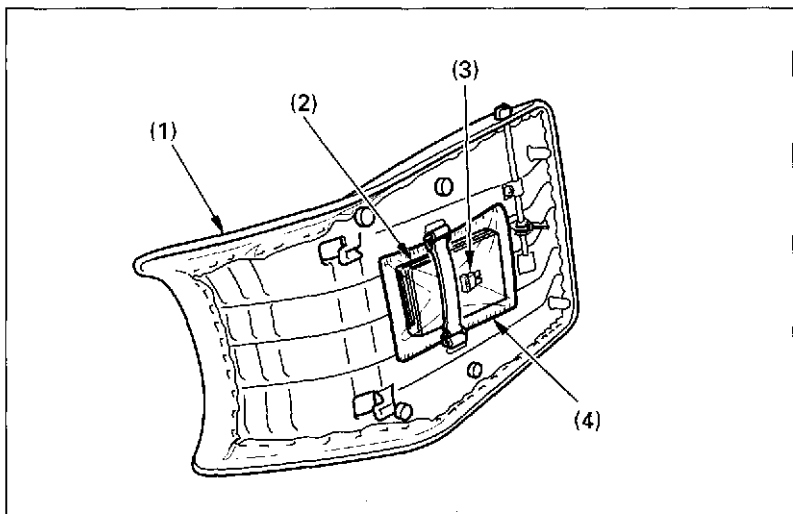

Fig. 2-26
The owner's manual storage area (Fig. 2-26) is located under the seat (1).